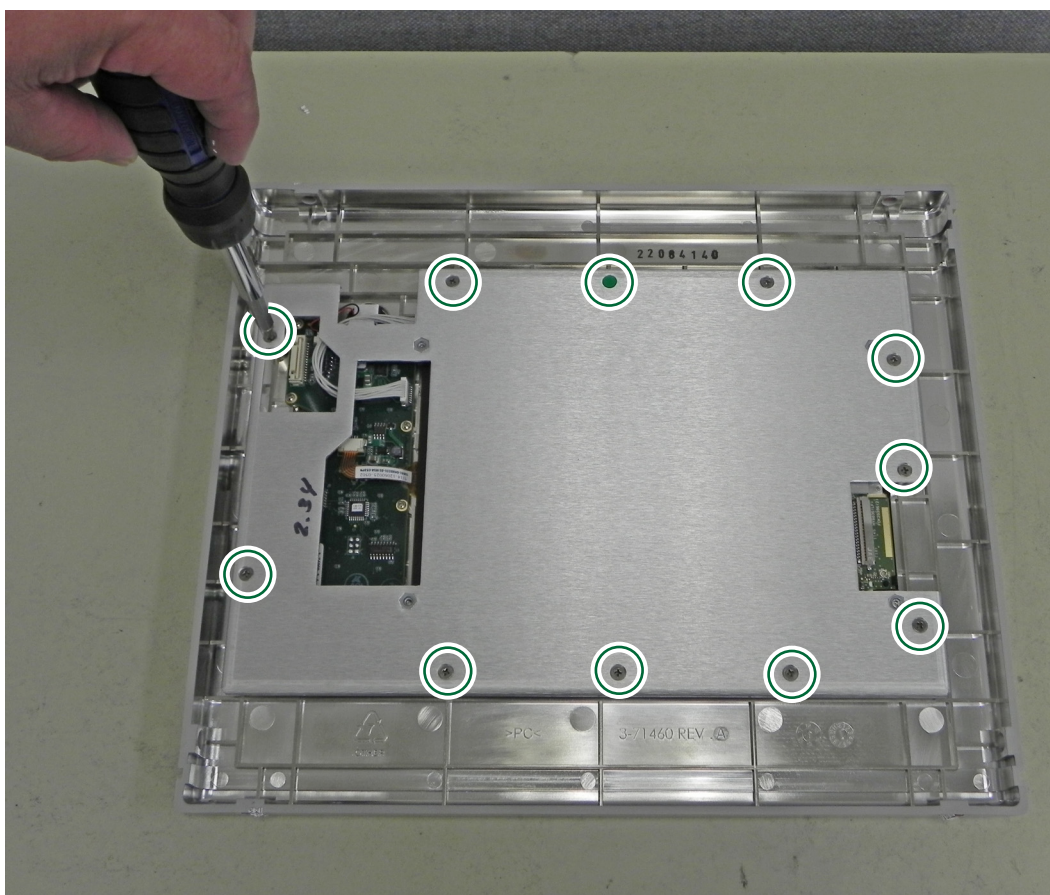

Figure 5-10. LCD Bracket Removal
2. Remove the 11 screws holding the LCD bracket to the PIM Master Front Panel (Figure 5-10).